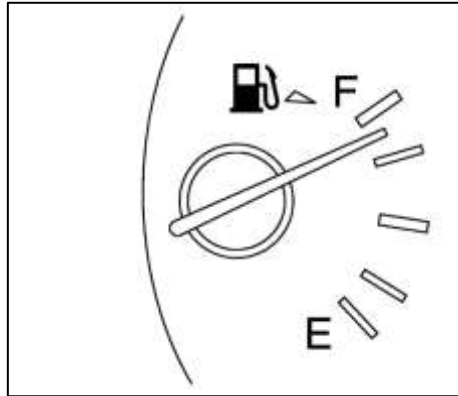

Figure 1
3. It is recommended to install this kit with the gas tank **NOT** full. If the Fuel Gauge indicates the level shown in diagram below or more, drain some fuel before continuing (or drive the car). It does not need to be empty, but the less fuel in the tank the cleaner this installation will be. *Figure 1.*